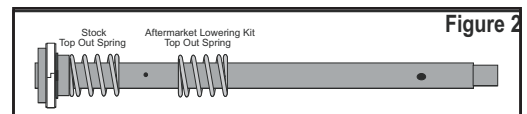

Figure 2
- If your bike is currently equipped with any type of fork lowering kit, such as a Burly Brand LOWBOY or other, You **MUST** remove that kit before installing this Slammer Kit. The Slammer fork kit is designed to work **ONLY** with the Stock fork rebound or top out springs. **WARNING** Failure to remove existing fork lowering kit components will result in unsatisfactory performance and may lead to fork damage, loss of vehicle control and injury. **Figures 2 & 3**